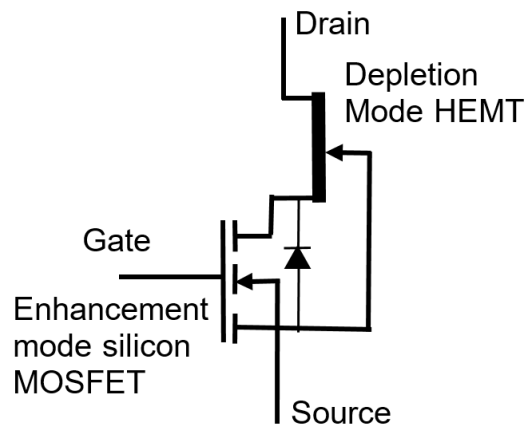

Fig. 3
4 Fig. 3 shows a CASCODE structure based on a low-voltage enhancement mode Silicon MOSFET and a high voltage depletion mode Gallium-Nitride High Electron Mobility Transistor (GaN HEMT).
- (e) Explain the existence and the specific role of the diode shown in Fig. 3. [20%]